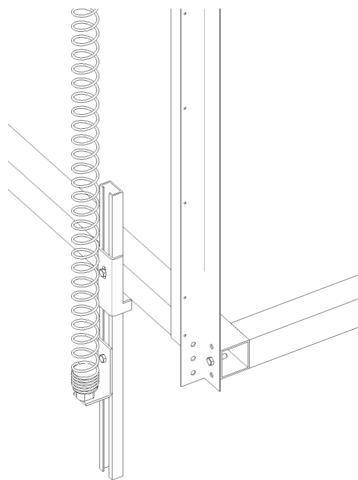

Figure 1
1. Screw the guide profile onto the floor frame as in figure 1.
2. Fix the spring holder to the floor frame according to figure 1.